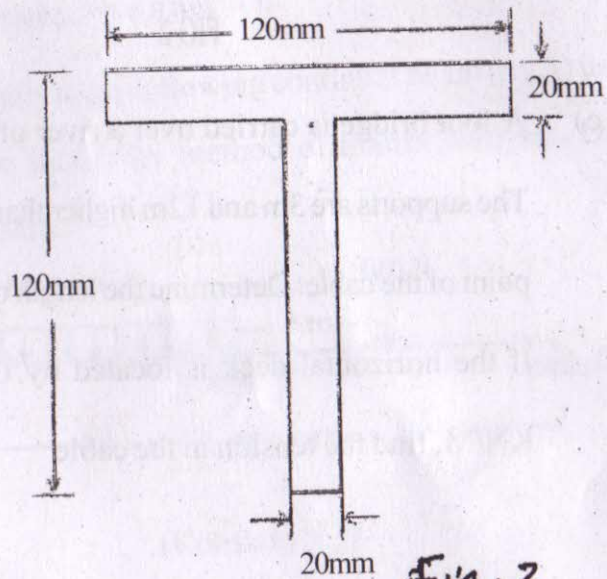

Fig.3
- e) Define shape factor and obtain its value for T-section with the following dimension shown in the fig.3 if the yield stress is  $250 \text{ N/mm}^2$ . Find  $M_p$ .